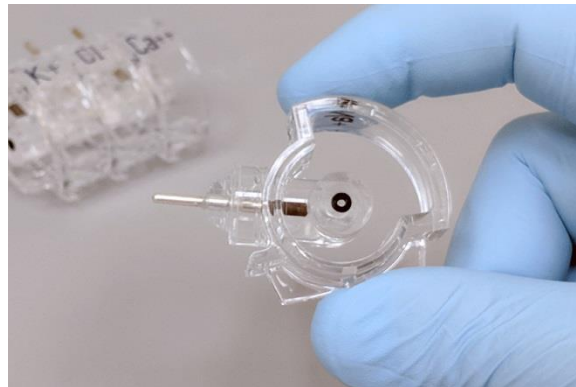

Figure 1-15 Electrode with black O-ring
- Remove liquid pathway seals from the sides of the electrodes so that the fluidic pathway is open and clear. Ensure the black O-ring is not adhered to the removed seal and remains on the electrode. Figure 1-15 shows the black O-ring in position around the pathway.
- Check that all measurement electrodes and reference housing have the black O-ring properly seated on the left side of the electrode as shown in Figure 1-15.